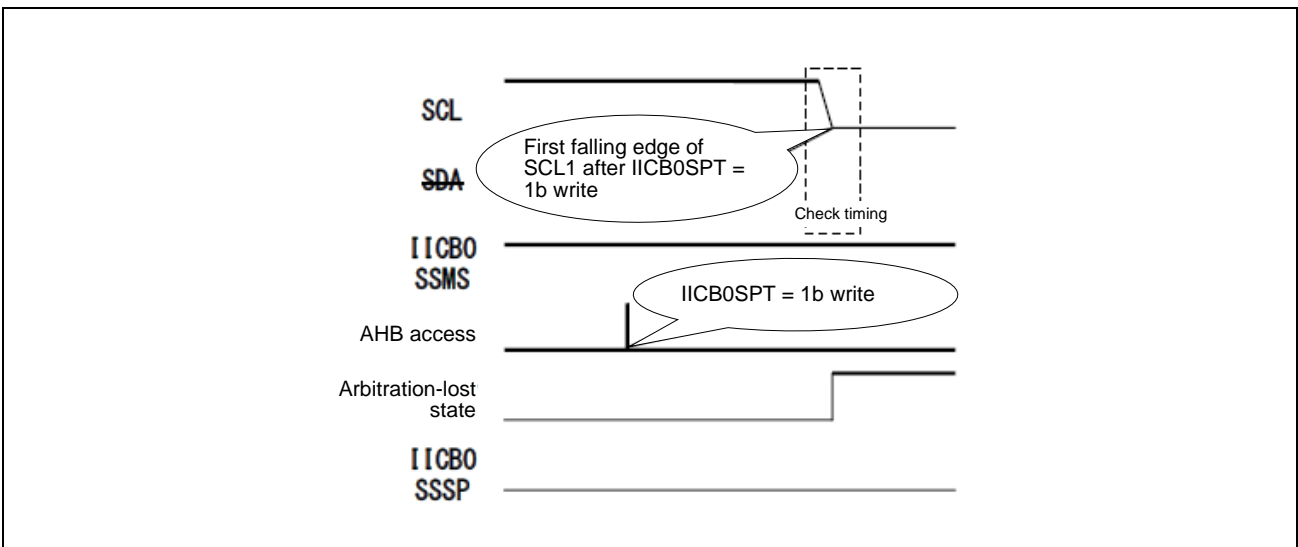

Figure 29.6-14 Arbitration-Lost State in (10)
In (10), after writing 1 to IICB0SPT, arbitration is checked when the first falling edge of SCLI after the output of a stop condition is detected. When the stop condition is not detected by the time the falling edge of SCLI is detected, this is judged to be an arbitration loss. **Figure 29.6-14** shows the arbitration-lost state.